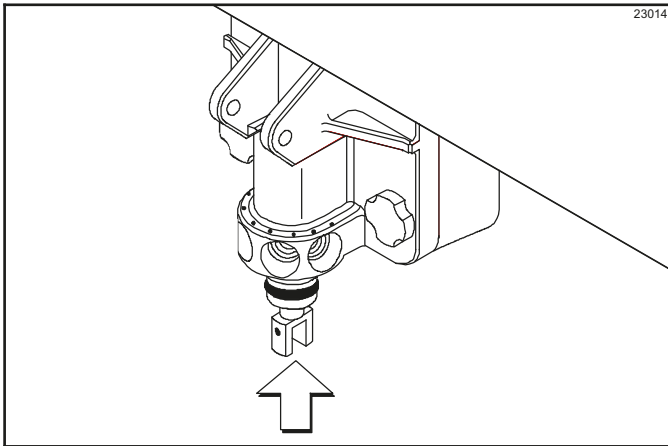

Figure 6-14
13. Insert the draw-valve spinner assembly from the bottom until the slot in the draw valve, which accepts the draw handle, comes into view. (See Figure 6-14.)